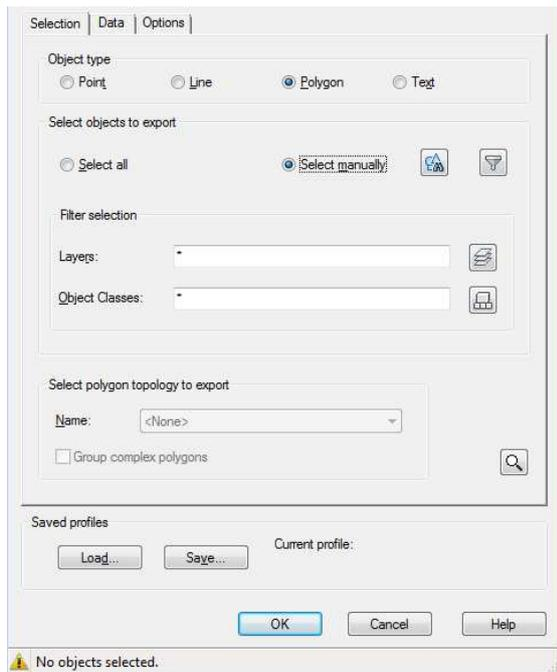

Figure 14. Selection
3. Select boundaries and select object type Polygon (Figure 14. Selection). Select treat closed polylines as polygons. (Figure 15a. Polygons).